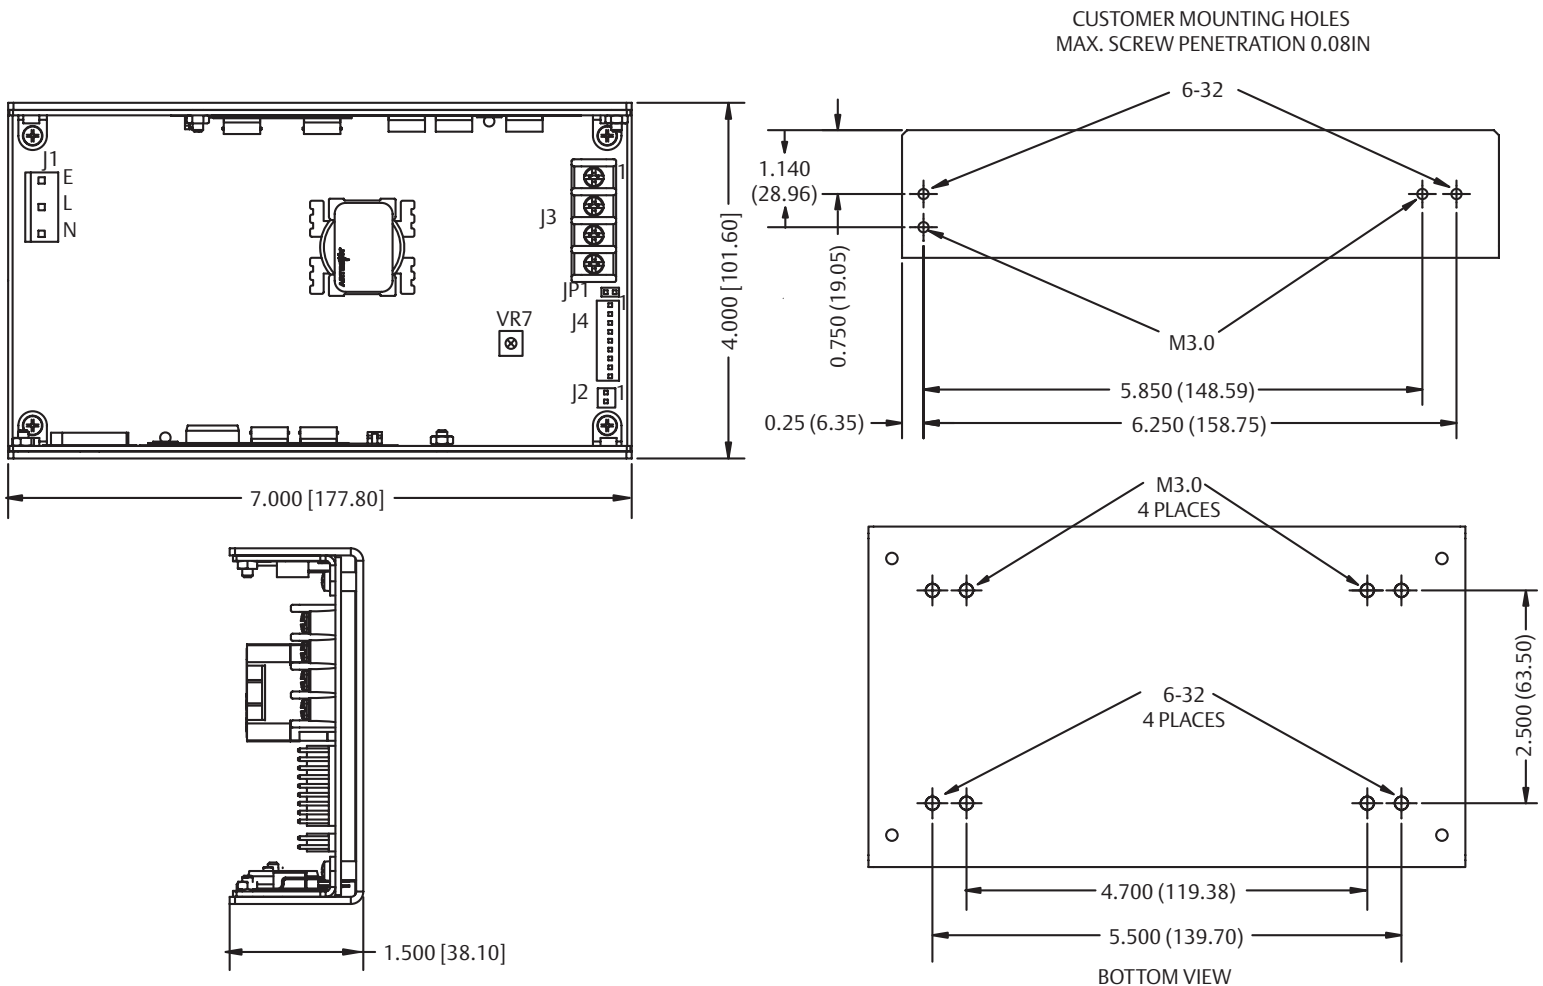

Figure 1: Derating Curve Output Power (Watts)
- Free air convection. Maximum continuous output power not to exceed 175 W. Refer to Figure 1 for the derating curve.